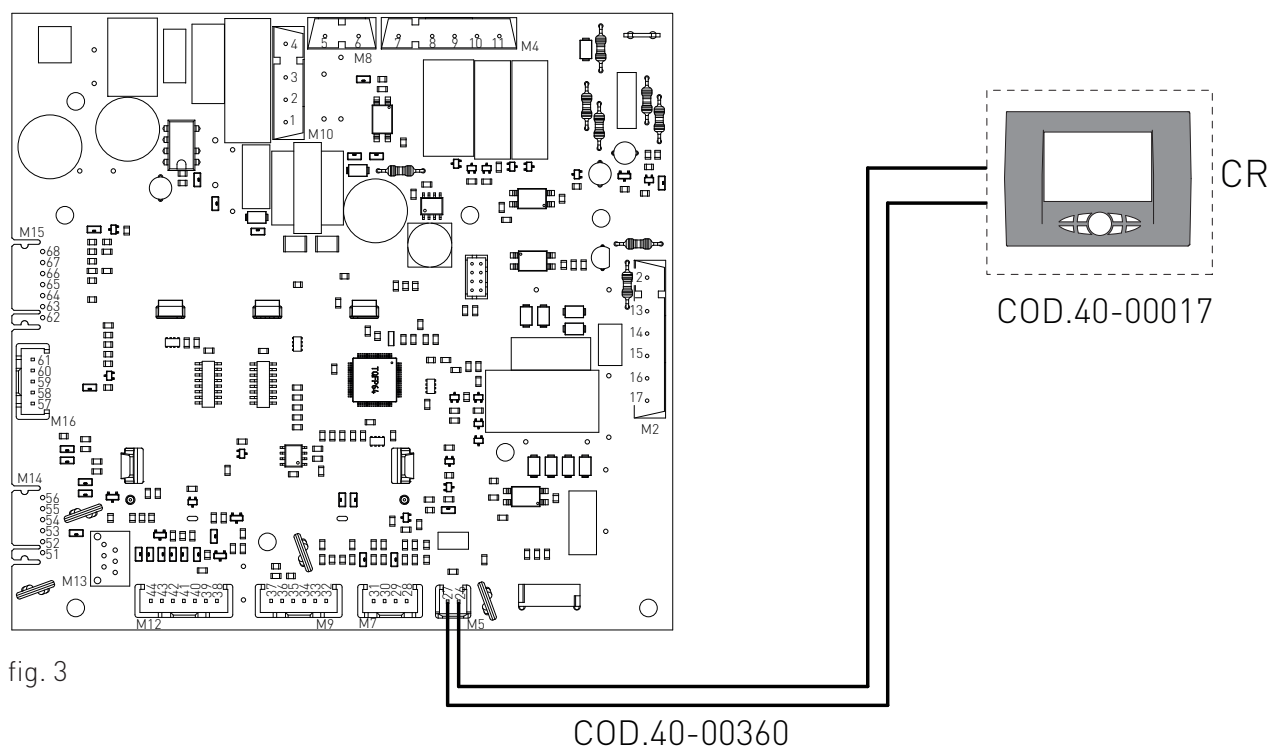

fig. 3
- › adjust the setting of the return temperature by pressing **(+)** and **(-)** (fig. 3). The activation of the pump is displayed onto the control panel by means of the pump **(P)** symbol.
- › Set the temperature setpoint of the D.H.W. tank by pressing  and  the sanitary  (fig. 3).
- › after removing the crankcase, connect the items below to the electronic board (see fig. 3):